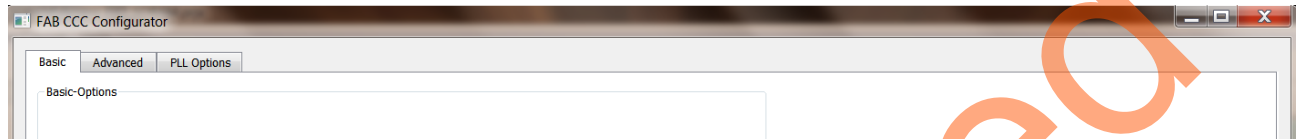

Figure 19. Advanced Tab of the FAB CCC Configurator
- Select the **Advanced** tab as shown in Figure 19.